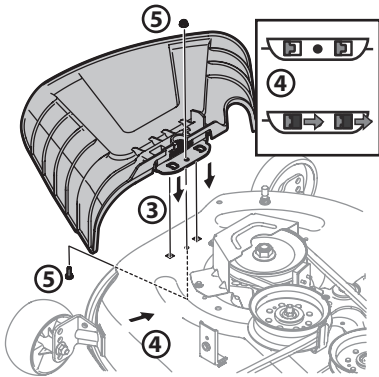

Figure 9
- Place the chute deflector on the deck, be sure to insert the tabs on the chute deflector into the holes on the deck. See Figure 9.
- Slide the chute deflector toward the rear of the tractor until the bolt hole in the chute deflector aligns with the hole in the deck. See Figure 9.